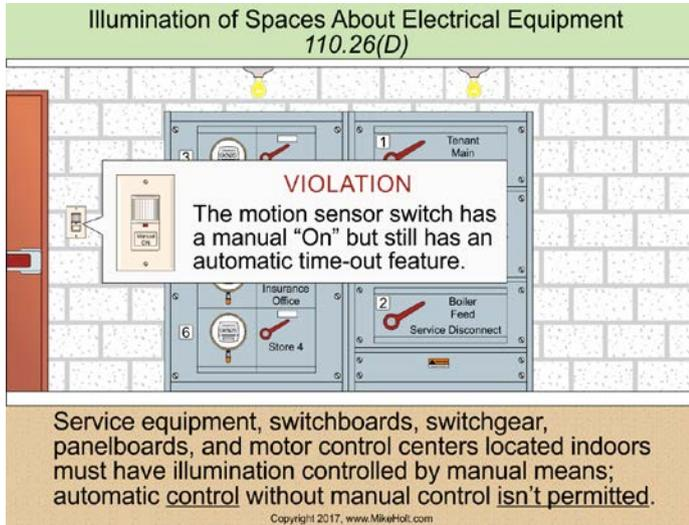

Figure 110-43
**(D) Illumination.** Service equipment, switchboards, switchgear, and panelboards, as well as motor control centers located indoors must have illumination located indoors controlled by manual means; automatic control without manual control isn't permitted. Figure 110-43